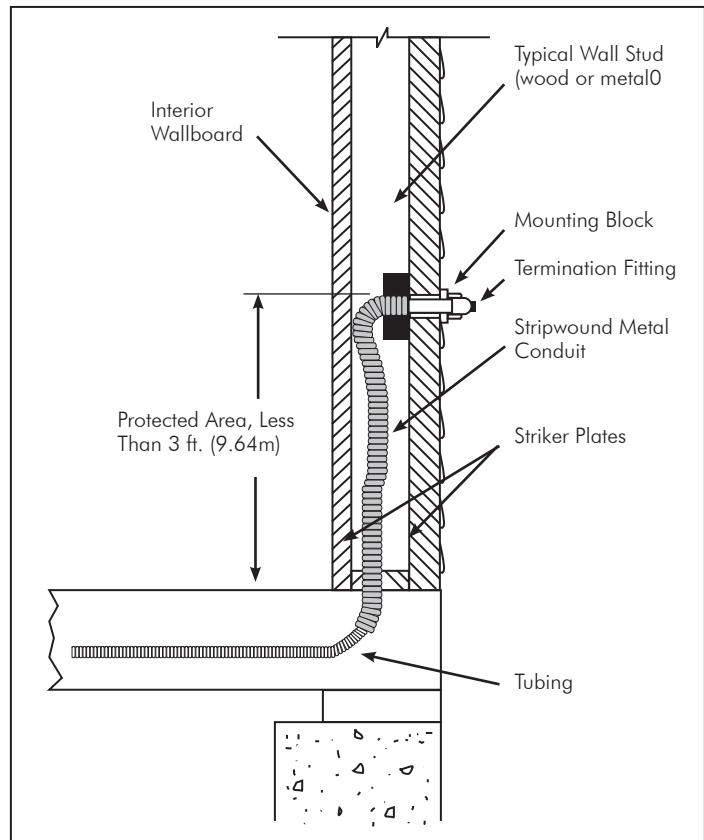

FIG. 4-14 Short Unsupported Tubing Run, under 3 ft. (9.84m), from an Outlet Device within a Wall Partition or Horizontal run between Studs
- Install floppy steel conduit in locations where striker plates are impractical such as termination outlets and stub outs, short tubing runs and where tubing is routed horizontally between studs (see **FIG 4-14**).